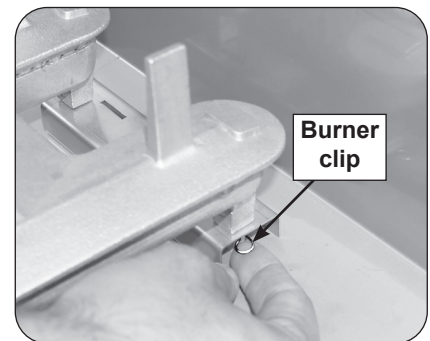

Fig. 1-1 Remove the grids and burner clip
4. Remove the existing main burner by first removing the burner clip (see Fig. 1-1) from under the back of the burner support. Then lift the back of the burner up out of the firebox by grasping the back and pulling upward. Continue to lift the back of the burner up while moving the whole burner back and out so that it pulls away from the forward fire wall opening and the orifice. Retain the clip with the burner so that they can be re-installed in the future, if desired.